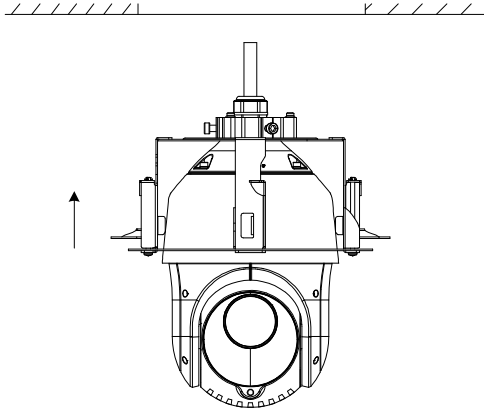

Figure 2-8 Push to the Mounting Hole
- 2) Push the speed dome according to the direction of the arrow in Figure 2-8 to the mounting hole.